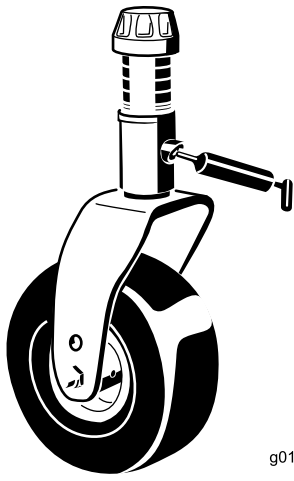

Figure 87
- 1 caster-fork-shaft bushing (Figure 87)